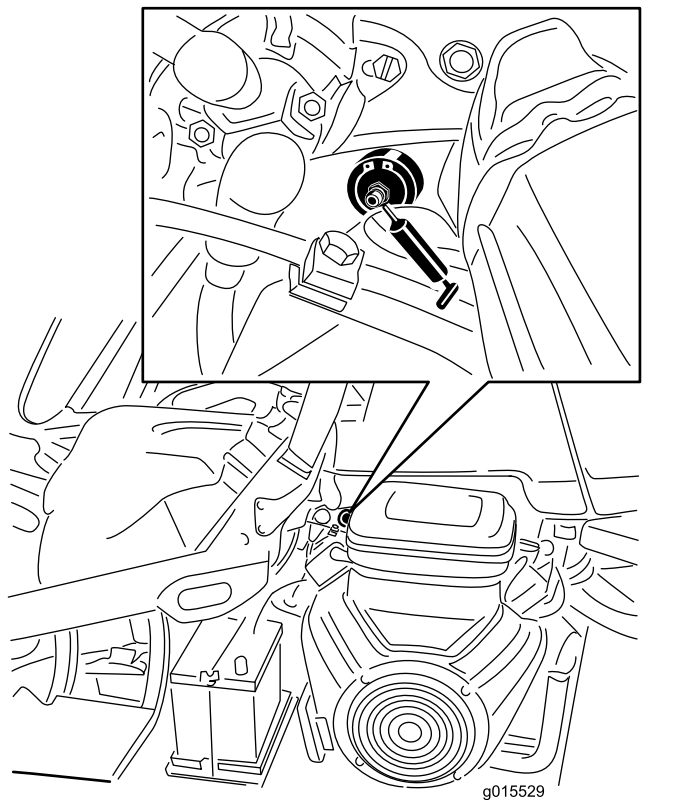

Figure 37
1. Wipe the grease fitting clean so that you do not force foreign matter into the bearing or bushing (Figure 37).